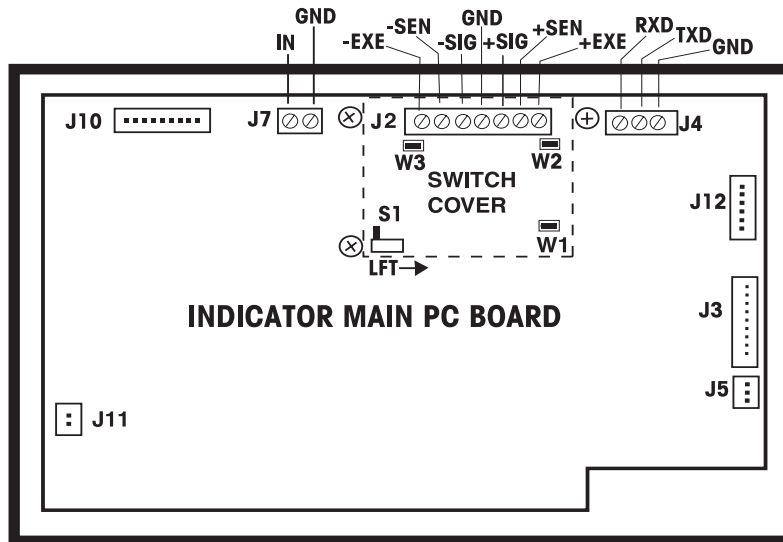

Figure A-2. Printed Circuit Board Connections.
Figure A-2 illustrates the locations of the printed circuit board connections.
Remove the 3 screws securing the switch cover over Terminal Strip J2. Refer to the manufacturer's wiring code of the load cell cable and connect the wires to Terminal Strip J2 according to the proper signal name. See Figure A-2. Tighten all terminal screws securely.
- Match the wire signals to connector J4 on the main PC board and connect the cable accordingly. See Figure A-2.
- Connect the cable to connector J7 on the main PC board. See Figure A-2.